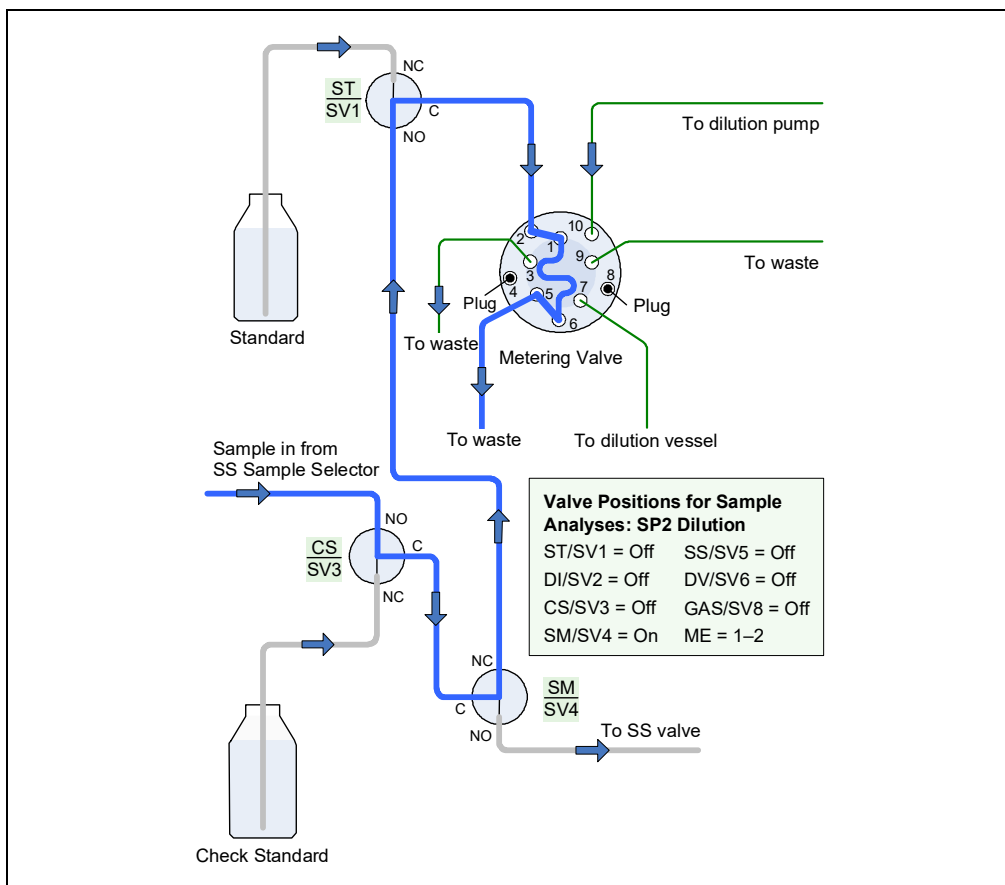

Figure 3-24. Analyzing Sample Streams: SP2 Dilution
- Step 1: Filling the loop on the metering valve with sample (see Figure 3-24).